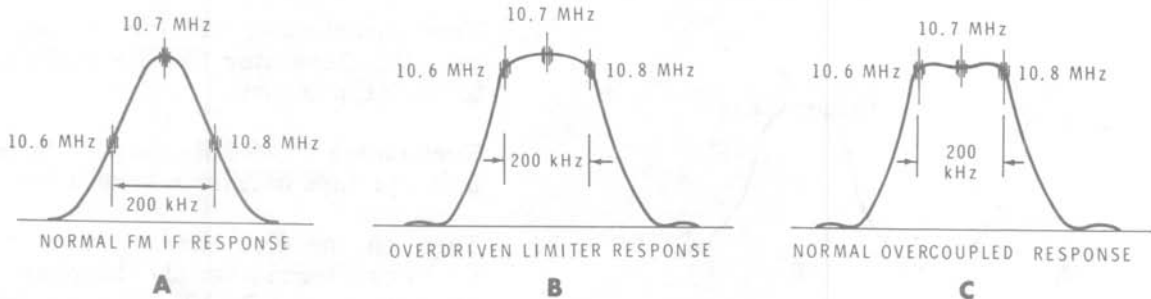

Figure 17
- ( ) Adjust the IF coils for the correct response as shown in Figure 17.